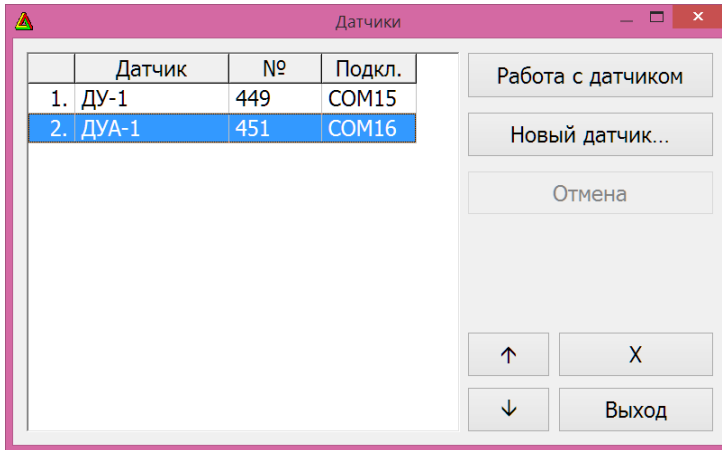

Figure 7. “Devices” dialog box in “DB SIAM”
- the “Devices” dialog box will appear (see Fig.7):